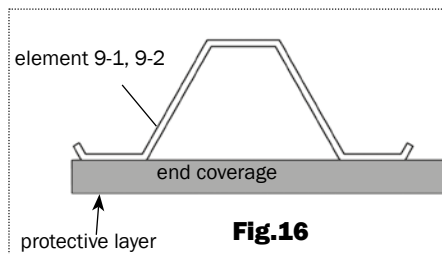
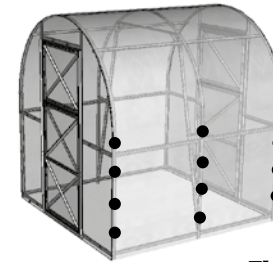

Fig.16
Fig. 22
- Cut a piece of polycarbonate (the cutting line fig.15). Put the piece of cover on the end, strictly combining the outer edge of the coating elements 9-1, 9-2 (fig. 16) and draw the elements 1, 4n and 4BK. cut out pieces of the coating to the seam allowance. Then put the assembled door and window to the coating sheet with the addition of one lateral edge opposite the hinges of the hinge is 15 mm. pieces of the coating, located above the window, cut at the installation site.
- Install side parts of the butt end as shown in fig.16. Holding a piece of cover surface in place, fasten it with screws and washers on parts 8 (fig. 22). And on angles with the use of self-tapping screws with washers. Holes for screws should be drilled with 4 mm bore from inside the greenhouse through ready-made holes in frame parts. Install pieces of "half-rounded ridge" by fastening it to angles with self-tapping screws with washers. Cut off any overlapping parts on the sides.